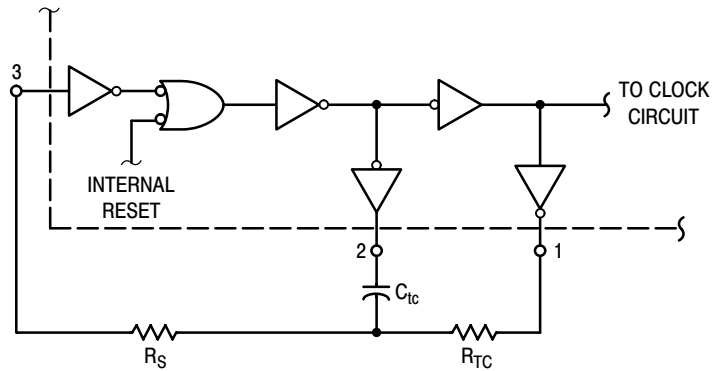

Figure 3. Oscillator Circuit Using RC Configuration
4. When using the on chip oscillator the total supply current (in μAdc) becomes: I_T = I_D + 2 C_{tc} V_{DD} f x 10⁻³ where I_D is in μA, C_{tc} is in pF, V_{DD} in Volts DC, and f in kHz. (see Fig. 3) Dissipation during power-on with automatic reset enabled is typically 50 μA @ V_{DD} = 10 Vdc.
The RC oscillator as shown in Figure 3 will oscillate with a frequency determined by the external RC network i.e.,